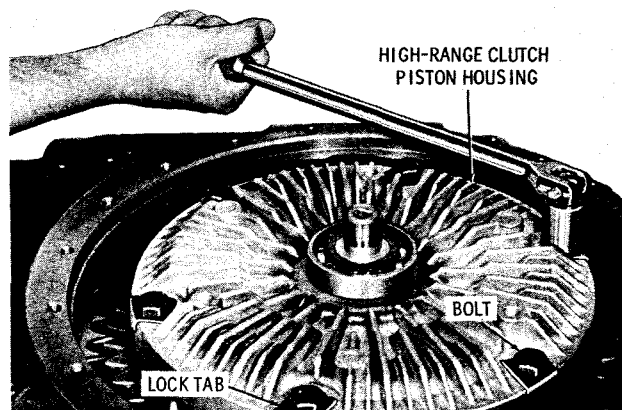

Fig. 5-18. Removing high-range clutch piston housing bolts
(1) Straighten the lock tabs, and remove the six bolts that attach the high-range clutch piston housing to the transfer drive gear (fig. 5-18). Remove the bolts and lock-tabs.